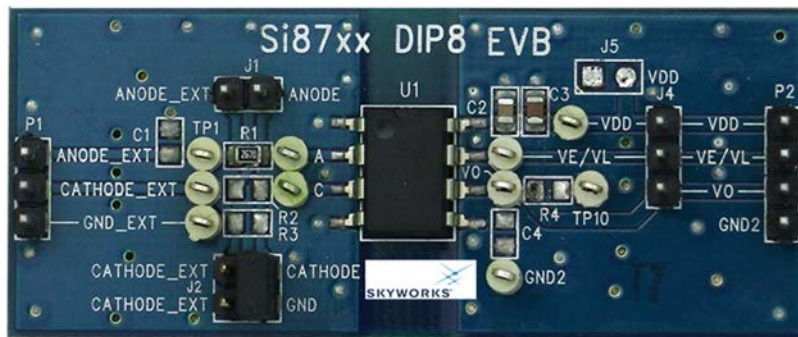

Figure 1. Si871x DIP8 Evaluation Board Overview
- Si871x based evaluation board as shown in Figures 1 through 3.
1. If demonstrating the SOIC8 or DIP8 EVB featuring the Si8718, ensure that J2 is installed as shown in Figure 1 or 2.